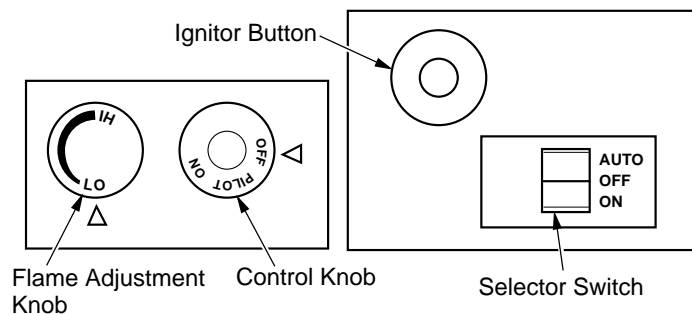

Figure 32 - Control Knob and Ignitor Button Location (Shown as Supplied, No Control Options)
- Wait five (5) minutes to clear out any gas. Then smell for gas, including near the floor. If you smell gas, STOP! Follow "B" in the safety information in column 2, page 15. If you don't smell gas, go to the next step.
- Press in and turn control knob counterclockwise  to the PILOT position. Press in control knob for five (5) seconds (see Figure 32).